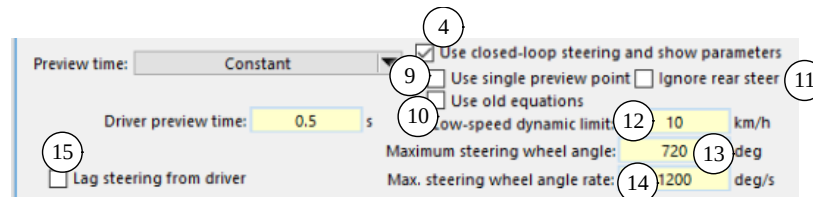

Figure 23. More options are shown with multiple preview points.
2. When not checked (OPT\_DM = 1 or 2), the steering control is calculated using a built-in linear dynamic vehicle model to predict the steering that matches the target path for ten points covering the distance  $L_{\text{prev}}$  in front of DM reference point, as described earlier (page 21). In this case, more controls are shown: (10), (11), and (15) (Figure 23).
- ⑬ Maximum steering wheel angle for the driver model (keyword = A\_SW\_MAX\_DM). This specifies the maximum angle that the steering wheel can be turned in either direction from center.
- ⑭ Maximum steering wheel angle rate (keyword = AV\_SW\_MAX\_DM). This specifies the maximum angular rate at which the steering wheel can be turned in either direction by the driver model.
- ⑮ Checkbox to include driver lag. This control is visible only when the single-point box ⑨ is unchecked (Figure 23). When the driver lag box is checked, an adjacent yellow field is shown for driver lag (keyword = TLAG\_DM). Steering wheel angles generated by the driver model